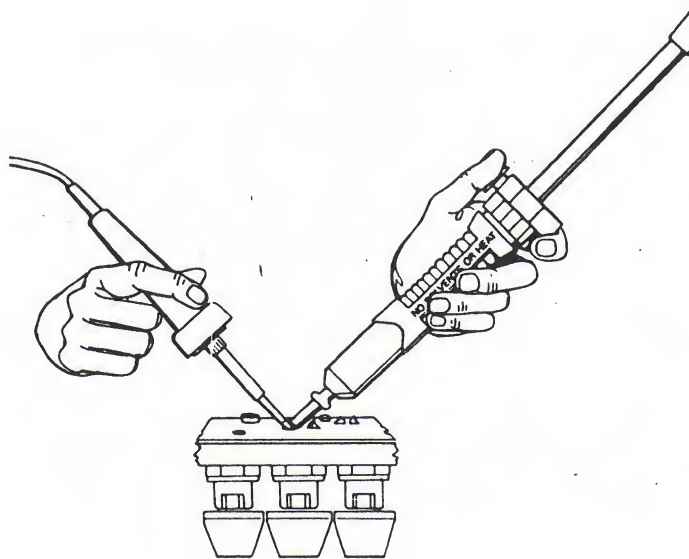

FIGURE 2
5. Hold the soldering iron and the solder-sucker as shown in Figure 2. The tip of the iron should be firmly in contact with both the pin and the pad at the base of the pin.